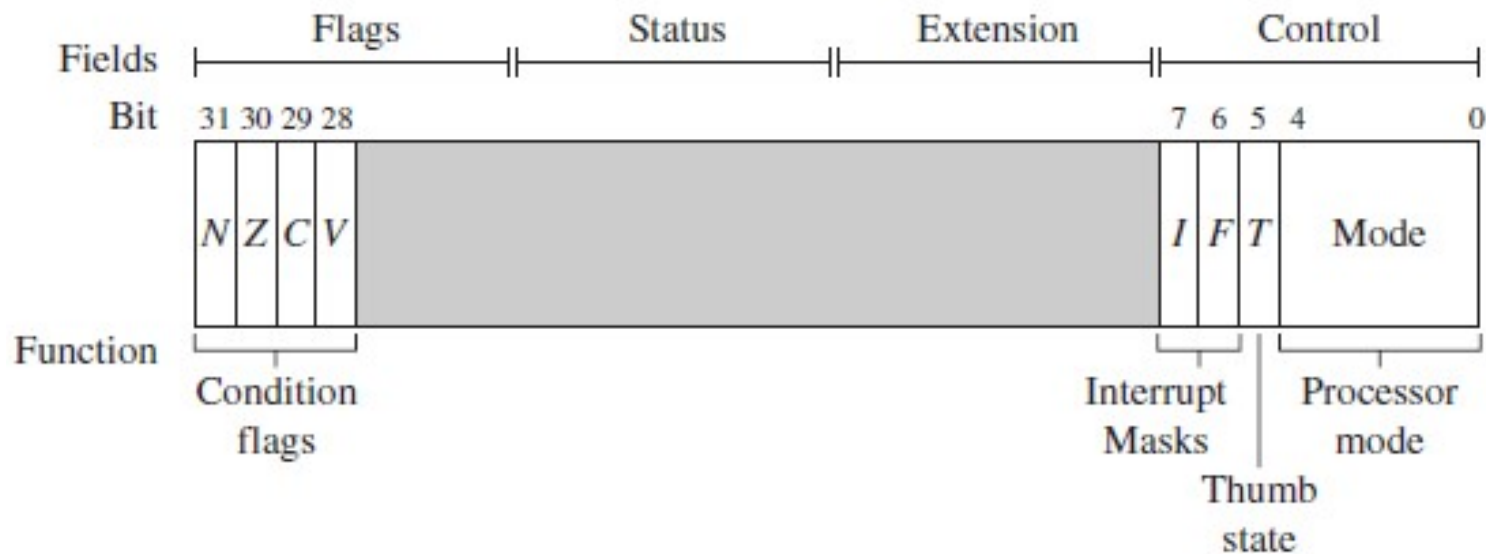

Figure 2.3 A generic program status register
- Figure 2.3 shows the basic layout of a generic program status register. Note that the shaded parts are reserved for future expansion.